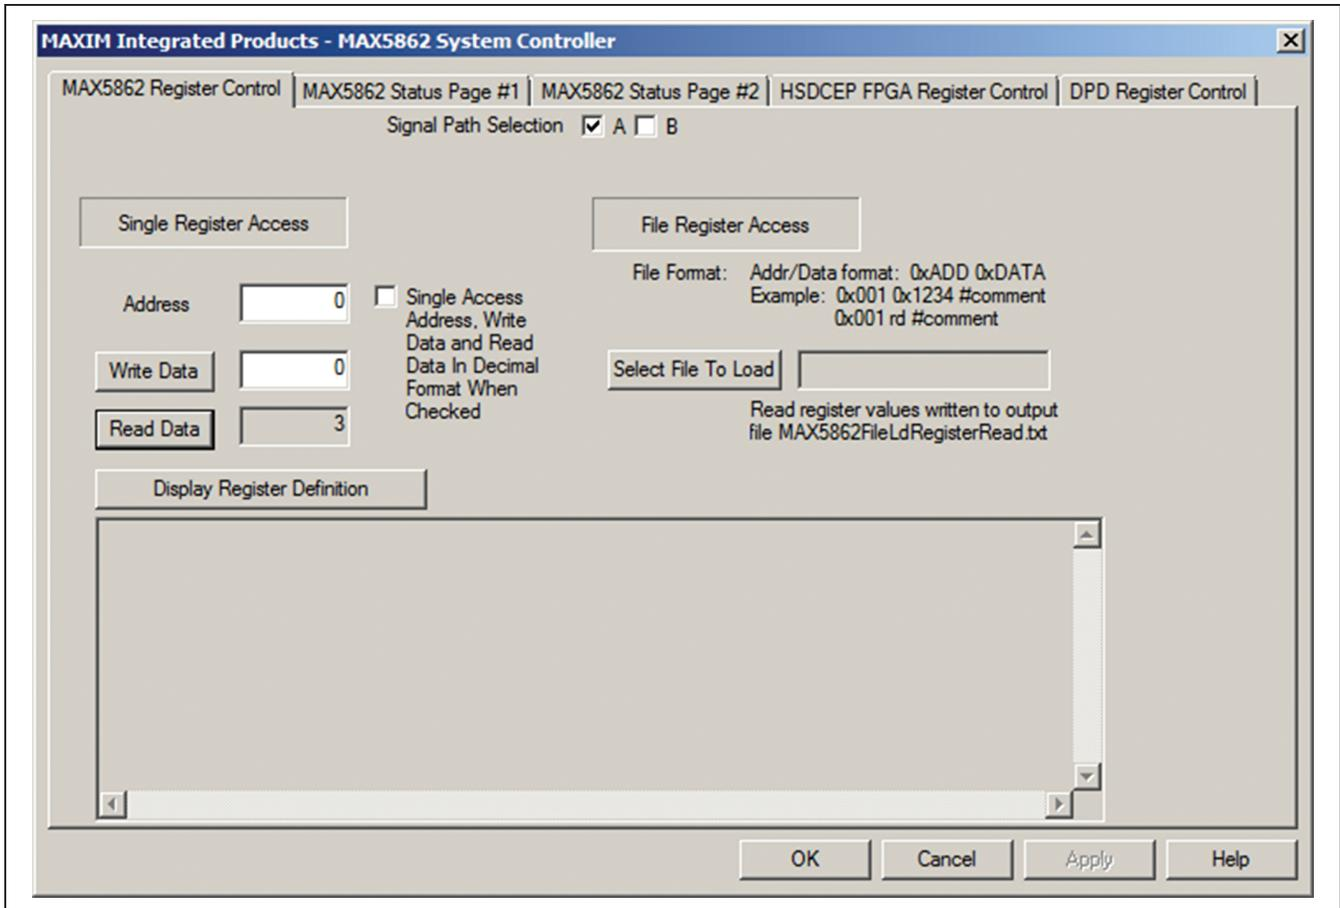

Figure 2. MAX5862 Evaluation System Controller Software GUI Window
- 14) Press the **Run MAX5862 Evaluation System Controller Application** button and verify that the EV kit main window appears, similar to that shown in Figure 2.
The two IC ports are differentiated by a **Signal Path Selection** checkbox as **A** or **B** shown in Figure 2. With the appropriate checkbox selected, the registers in a port are written to and/or read from.
If the USB has been disconnected, the communication link is lost and must be reinitialized by closing the main GUI window (Figure 2) and clicking on **Run MAX5862 System Controller Application** (Figure 1) to connect properly with the microcontroller.